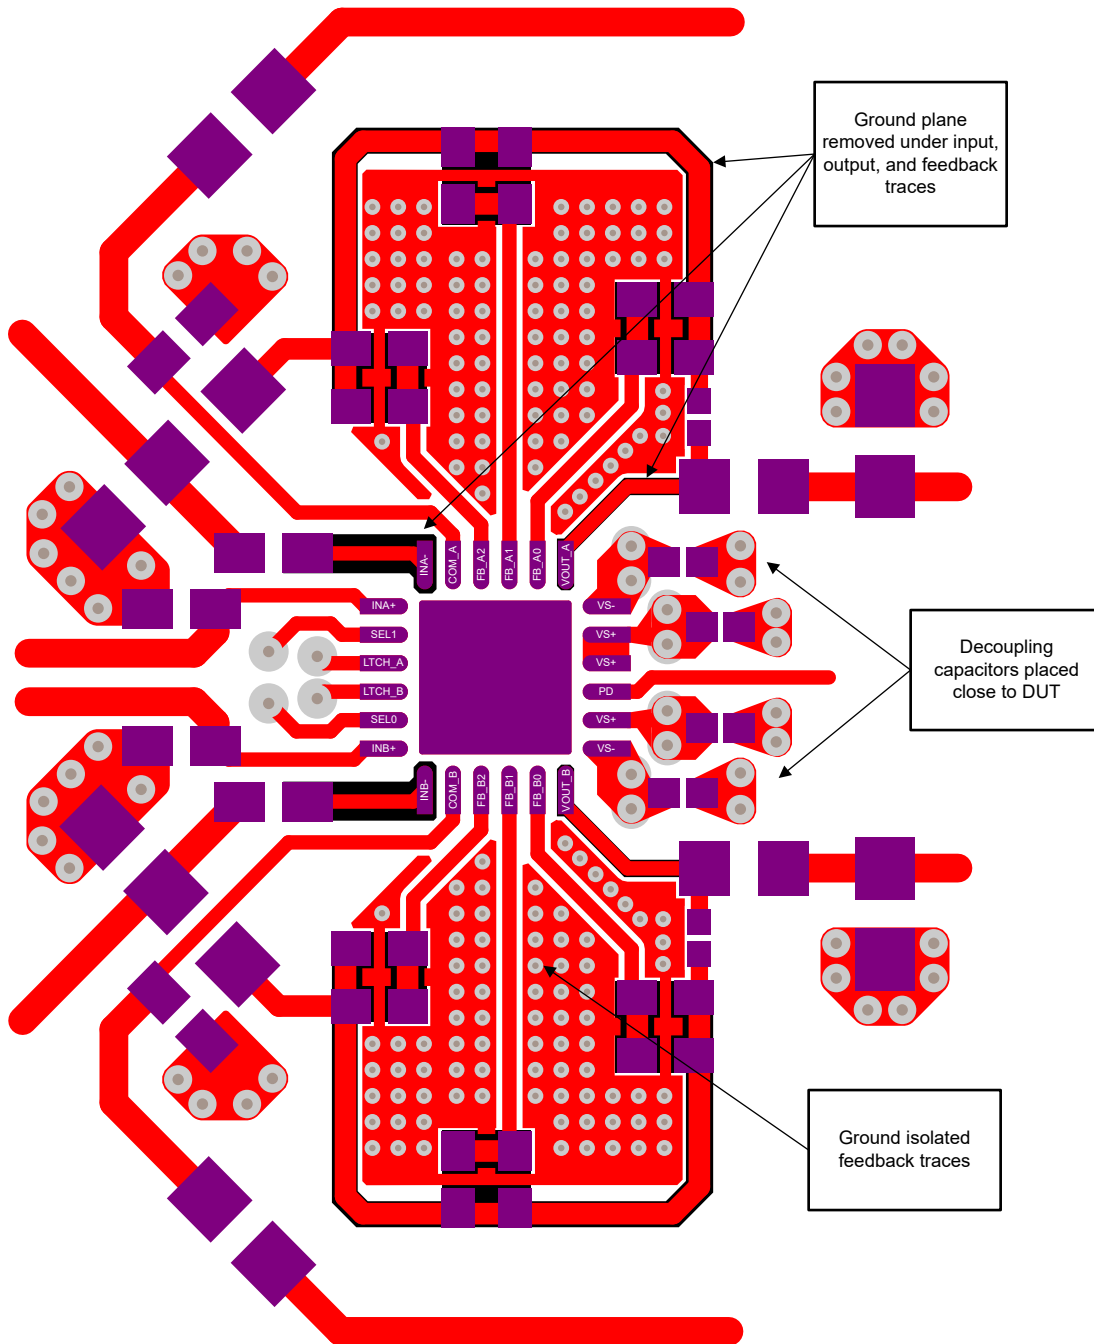
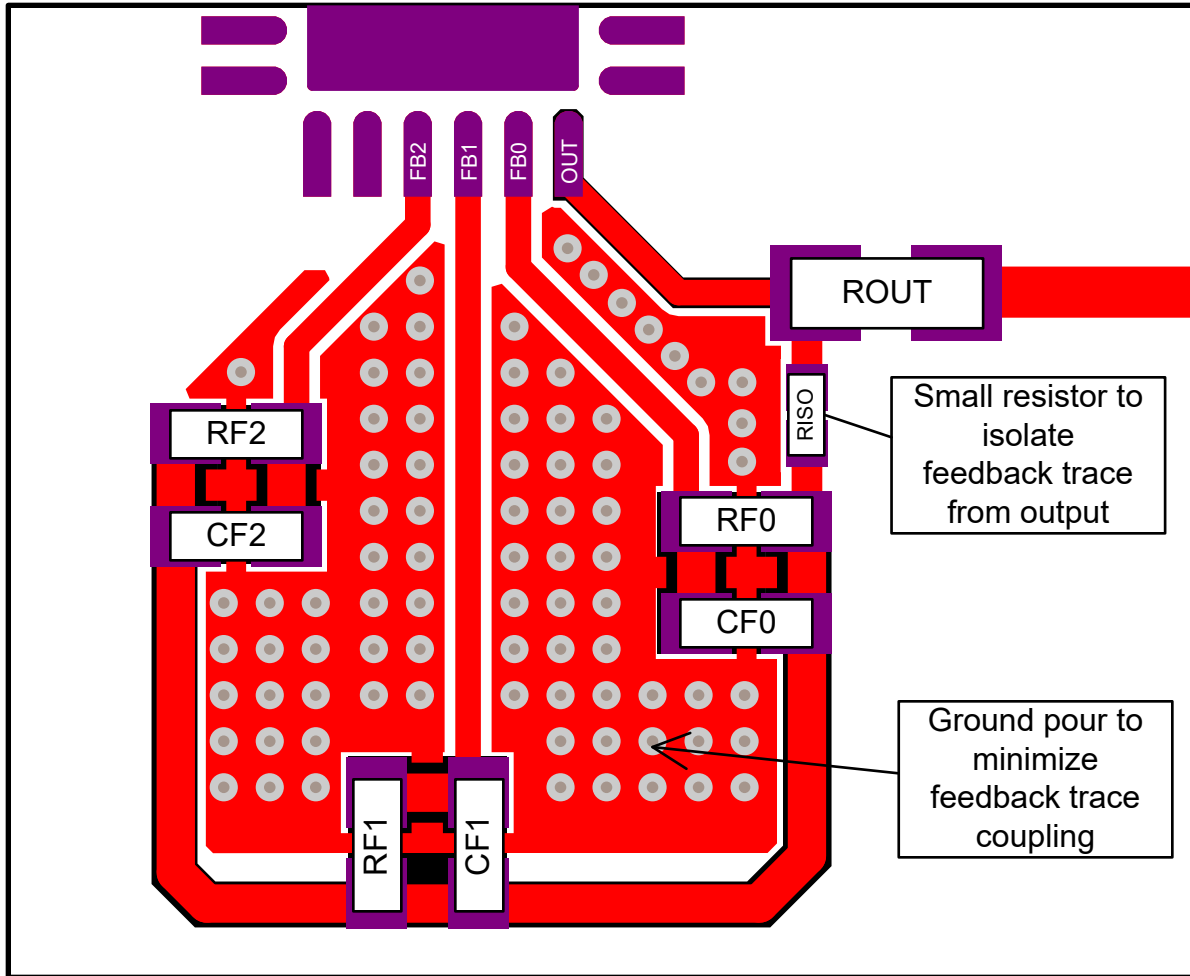

图 11-1. General Layout Example
图 11-2. Feedback Network Layout Recommendations
**Figure 11-1** shows a typical layout around the OPA3S2859 based on the evaluation module. The smallest decoupling capacitors were placed as close as possible to the DUT with wide metal area to minimize inductance. Special attention was placed on the feedback network layout to optimize the design for a typical application using 1 k Ω , 10 k Ω , and 100 k Ω feedback resistors. **Figure 11-2** shows more details. The black colored areas under the input and feedback traces show the voids cut in the ground plane underneath the traces to minimize capacitance to ground as much as possible.
图 11-2 shows an example of a feedback network from the evaluation module optimized to reduce the capacitive coupling between the feedback and output traces. Ground plane is poured between each of the feedback traces and component footprints as much as possible for the best isolation. A small isolation resistor (RISO) is connected between the output and feedback trace to help isolate the trace capacitance from being directly connected to the DUT output. Additionally, the ground plane is removed from under the feedback trace to further reduce the parasitic capacitance to ground created by the additional trace length required for the feedback network.